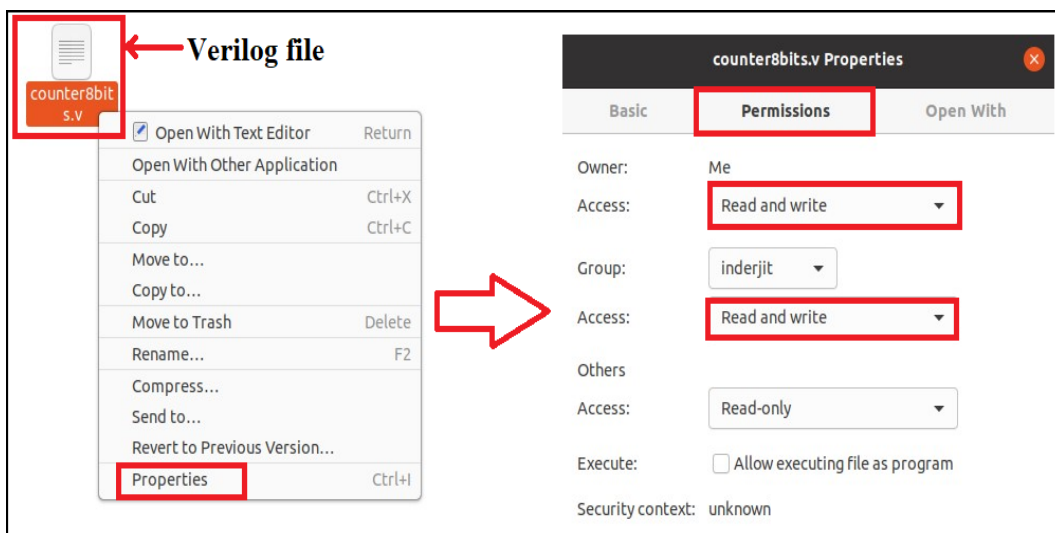

Figure 11.44: Read-Write Permissions for Verilog file
3. The verilog file should have Read and write Permissions. To set read and write permissions of the verilog file, right click on verilog file and click on **Properties**. Next click on **Permissions** and select access as **Read and write** as shown in Fig. 11.44.